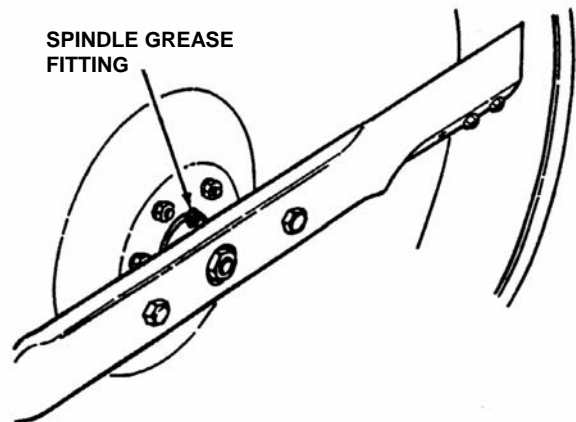

FIGURE 3.5
4. Lubricate spindle with three shots of general purpose grease from grease gun. See Figure 3.5.